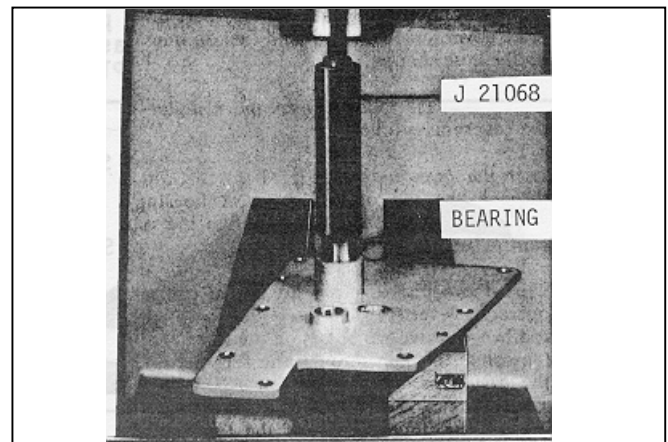

Fig. 18
- (b) Place the correct end of the bearing Fig. 18 Installing Bearings in Governor Cover
installer J 21068 in the bearing and under the ram of the press as shown in Fig. 18. Then press the bearing into the bore until the stop on the installer contacts the cover boss.